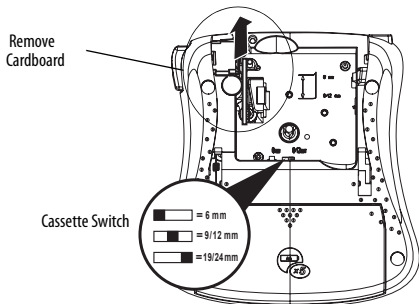

Figure 3
⚠ The first time you use the printer, remove the protective cardboard insert from between the print head and pinch roller. See Figure 3.
2. Set the cassette switch for the size of the tape cassette that you are inserting. See Figure 3. A notch in the cassette will fit over the switch when it is in the correct position.